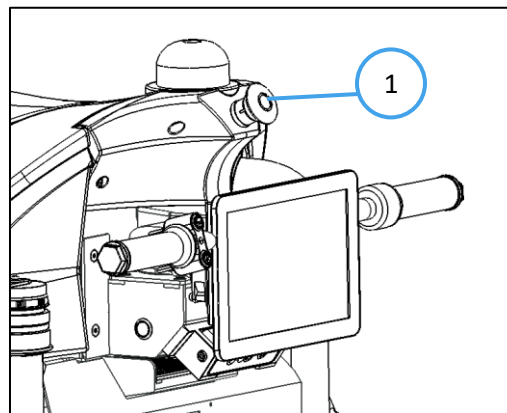

Fig. 3
4. Ensure the E-Stop (Fig. 3 - 1) is released. If the E-Stop is engaged, the LEDs will be red. Refer to "EMERGENCY STOP" on deactivation.